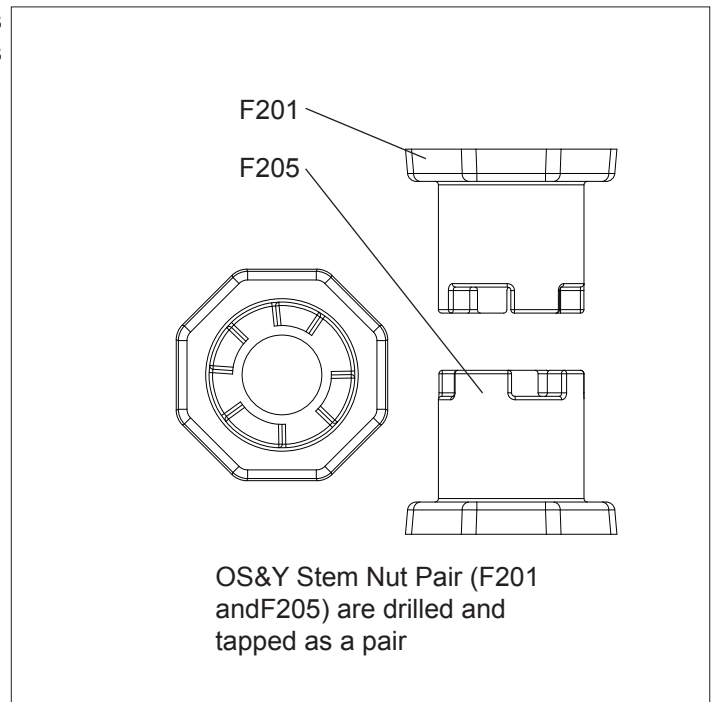

Fig. 6B
**NOTE:** The Stem Nut pair are keyed with different sized lugs. Be sure to align the lugs in the correct location! (See Fig. 6B)
(See Fig. 6B)